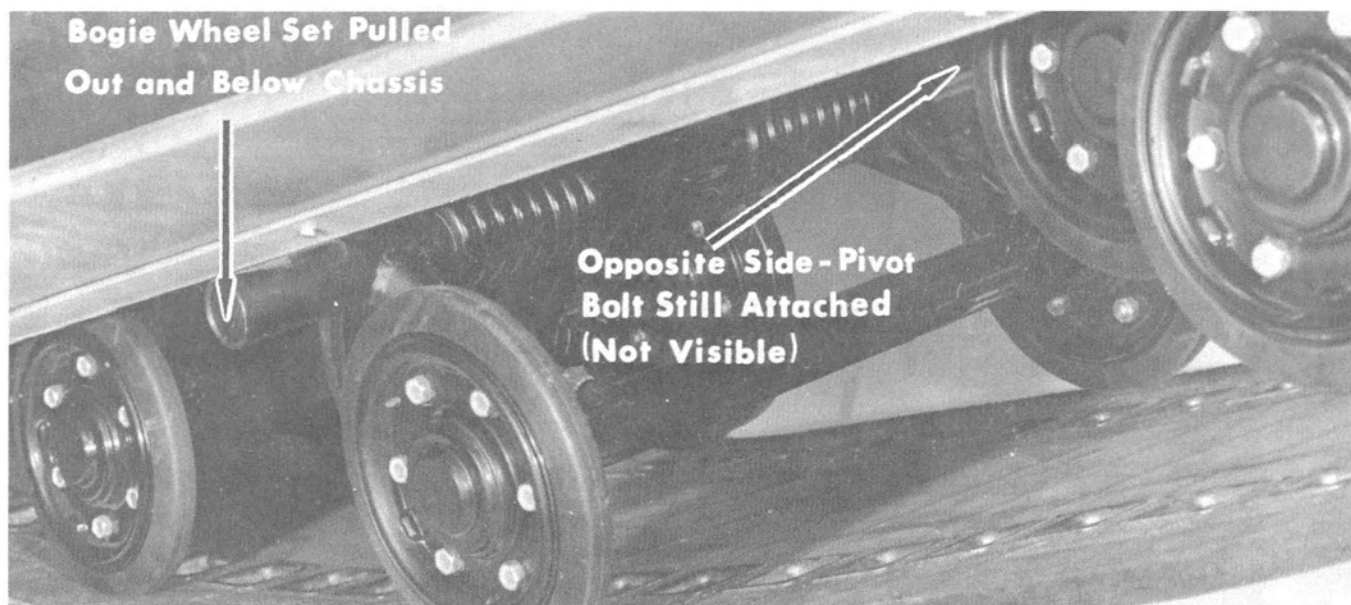

Figure 2. Typical Bogie Wheel Assembly Removal
6. Pull downward on disconnected end of bogie pivot shaft until it clears chassis, then slide bogie tube assembly partially off pivot shaft. (Figure 2)